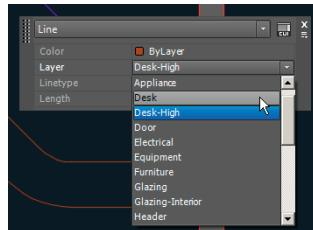

FIGURE 6.3 Assigning a different layer to the selected object
4. Select the Desk layer in the drop-down (see Figure 6.3), and press the Esc key to exit Quick Properties mode. Press Ctrl+Shift+P to toggle off Quick Properties mode. Observe that the line whose layer property you changed now appears violet, like the other objects on the Desk layer.